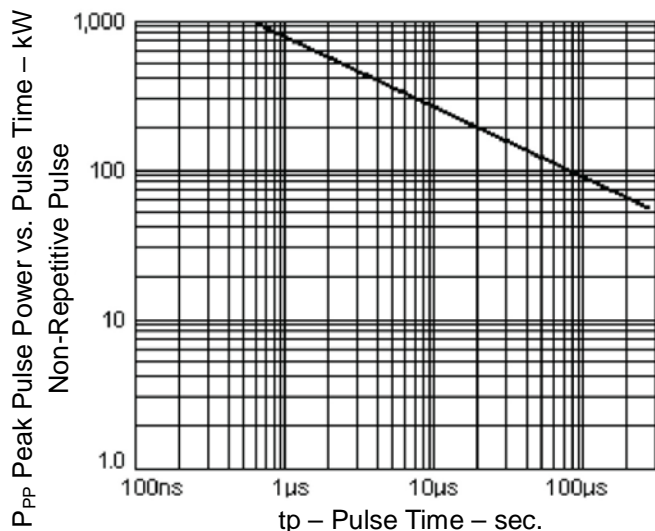

FIGURE 1
NOTE: This P_{PP} versus time graph allows the designer to use these parts over a broad power spectrum using the guidelines illustrated in MicroNote 104 on www.microsemi.com. Aircraft transients are described with exponentially decaying waveforms. For suppression of square-wave impulses, derate power and current to 66% of that for the exponential decay shown in Figure 1.
NOTE: The 1 MHz damped oscillatory waveform (3) has an effective pulse width of 4 μ s. Equivalent peak pulse power at each of the pulse widths represented in RTCA/DO-160 for waveforms 3, 4 and 5A (above) have been determined referencing Figure 1 herein as well as MicroNotes 104 and 120 (found on www.microsemi.com) and are listed below.